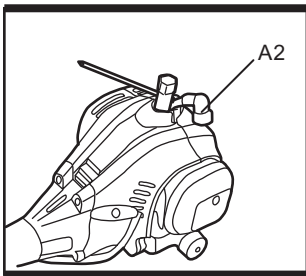

Fig. 20a
2. Unplug the spark plug connector (A2). Loosen the spark plug with the spark plug wrench (D2, D1) anticlockwise and carefully remove it. (See Fig. 20a)